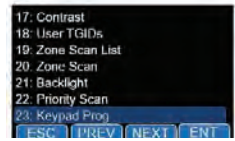

Figure 1
2. Access the Program Mode (See Figures 1, 2 and 3)